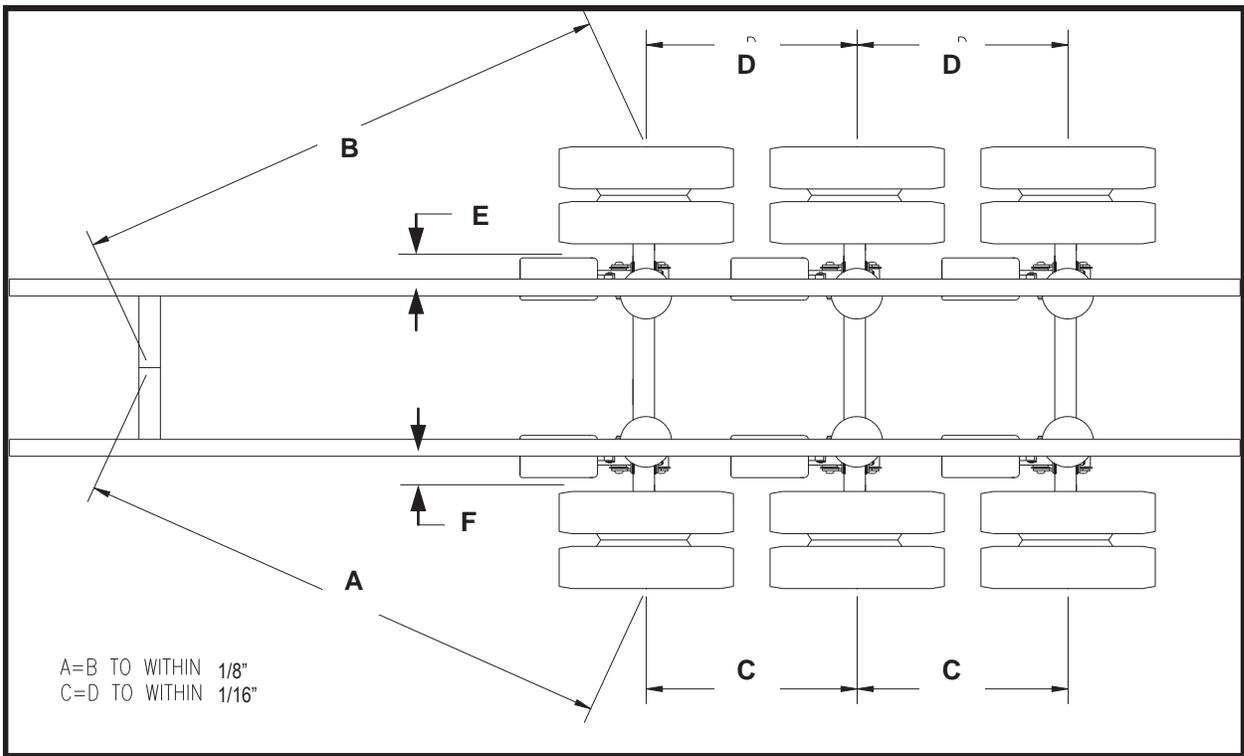

Figure 18
4. Move the other arm on the suspension forward or backward to allow the distance from center of spindle to kingpin (**Figure 18** Dimension **A & B**) to be equal distance within 1/8".
7. Make sure axles protrude evenly on both sides from frame. **Figure 18** dimensions **E** and **F** must be within 1/4" of each other
9. Additional suspensions should be aligned per **Figure 18** using the **C & D** dimensions with only 1/16" maximum variations.
5. Using a 1/2" break over or ratchet, rotate the other two collars on the other hanger so the suspension moves forward or backward to allow the distance from center of spindle to kingpin (**Figure 18** Dimension **A & B**) to be equal distance within 1/8". Rotate inside and outside Eccentric Collar together and the same.
8. Make sure axles protrude evenly on both sides from frame. **Figure 18** dimensions **E** and **F** must be within 1/4" of each other.
10. Additional suspensions should be aligned per **Figure 18** using the **C & D** dimensions with only 1/16" maximum variations.